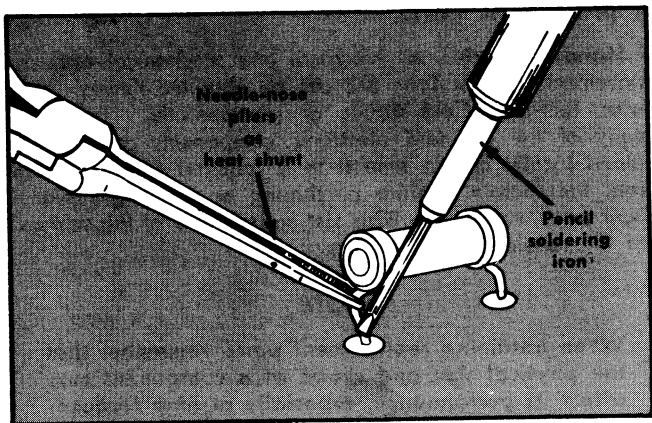

Fig. 4-1. Apply soldering iron to the heat-shunted lead when removing a component from an etched-wiring board.
2. Touch the tip of the soldering iron to the lead at the solder connection (see Fig. 4-1). When the solder begins to melt, pull the lead out gently. A clean hole should be